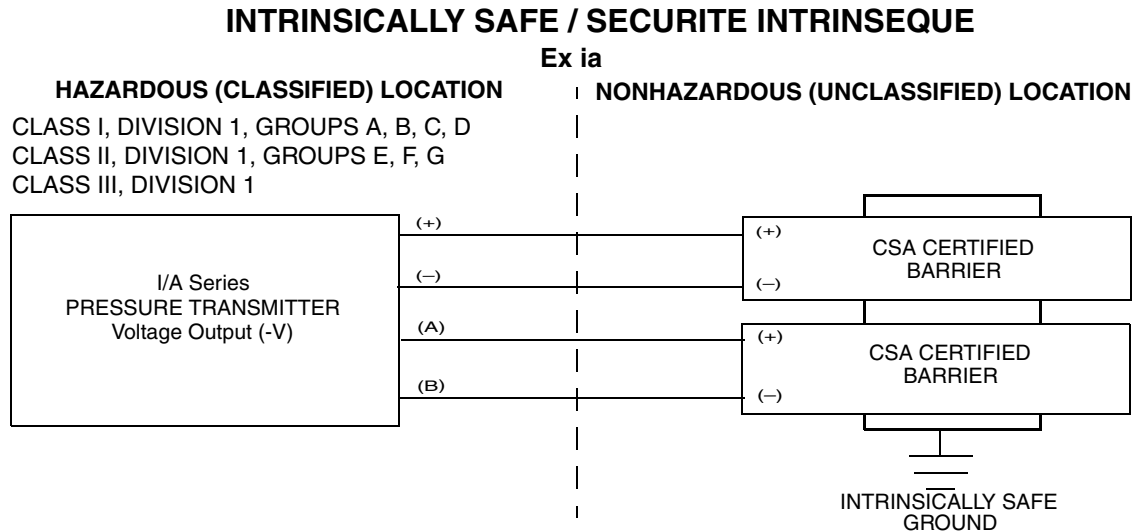

Figure 8. Divisions Loop Diagram for Voltage Output Transmitters With CSA Certified Barriers
1. Figure 8 and/or Table 3 must **not** be modified without prior CSA approval.